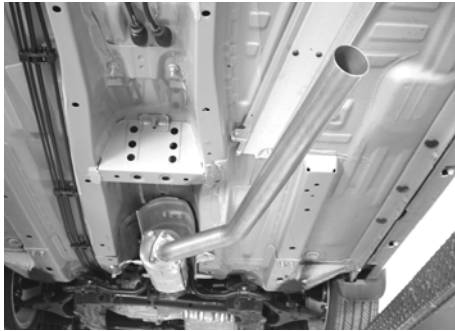

Figure 5
1. Set the front pipe assembly into position as shown in figure 5. Using the original hardware, tighten the flange to the vehicle manufacturer's recommended torque value.